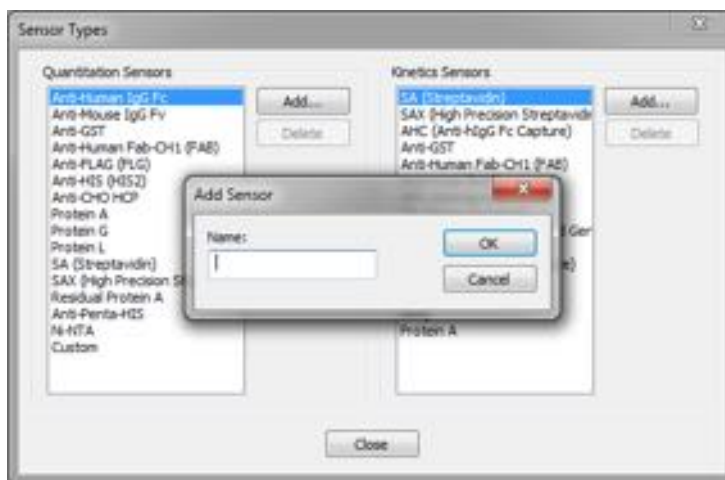

Figure 3-26: Adding a Biosensor Type
2. In the **Sensor Types** window (Figure 3-26), click **Add** next to the **Quantitation Sensors** or **Kinetic Sensors** box (depending on the type of biosensor that will be added).